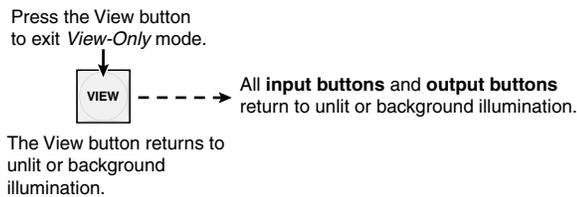

Figure 3-28 — Press the View button to exit View-only mode
- Press and release the View button to exit *View-only* mode (figure 3-28).